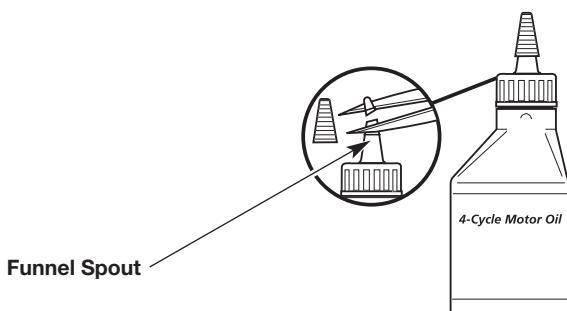

Fig. 5
2. Remove the cap from the oil bottle. Cut the tip off the funnel spout (Fig. 5).